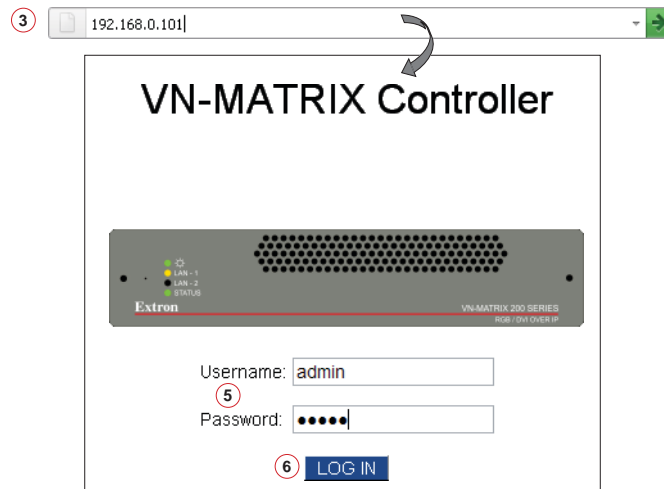

Figure 15. Controller Login via the LAN Port
2. In the web browser, enter the IP address of the VNC 325 that is configured as the controller into the address bar of the web browser (see figure 15).